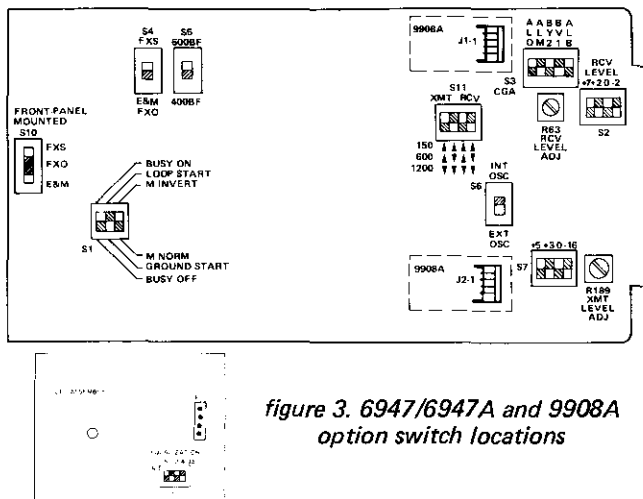

figure 3. 6947/6947A and 9908A option switch locations
3.04 All option selections on the 6947 and 6947A modules are made via slide switches or DIP switches located as shown in figure 3. Table 9 lists all options and indicates the option choices, which are further explained in paragraphs 3.05 through 3.11.
D. Equalization: Determine the difference between the 1000Hz and 2804Hz tone levels measured in step A. Referring to figure 3 and table 9, set to *IN* the proper combination of switches on four-position DIP switch S1 (located on the receive channel's 9908A subassembly) that adds up to this difference (or to the level specified in the CLR).